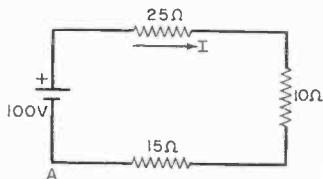

Fig. 6
**C. Series Circuit.** A series circuit is a network where *the same current flows in each element*. An example of a series circuit is shown in Fig. 6.
voltage across the 10-ohm resistor in the series circuit in Fig. 6. *Sol.* It is necessary to distinguish the direction of current flow and the polarity of voltage sources in the application of Kirchhoff's voltage law. The convention used here is: (1) A minus sign precedes a voltage quantity in going around a closed path from a *low* to a *high* potential or *against* the direction of indicated current flow.
- (2) A plus sign precedes a voltage quantity in going around a closed path from a *high* to a *low* potential or *with* the direction of indicated current flow.
- (3) The assumed direction of current flow is arbitrary. (a) Referring to Fig. 6, assume that we start at point A and go around the closed path clockwise (with the direction of indicated current flow). Then, according to the voltage law and the conventions we have adopted,  $-100 + (25 + 10 + 15)I = 0$  or  $I = 100/50 = 2$  A. (b) From Ohm's law, the voltage across the resistor is  $V = IR = 2(10) = 20$  V.